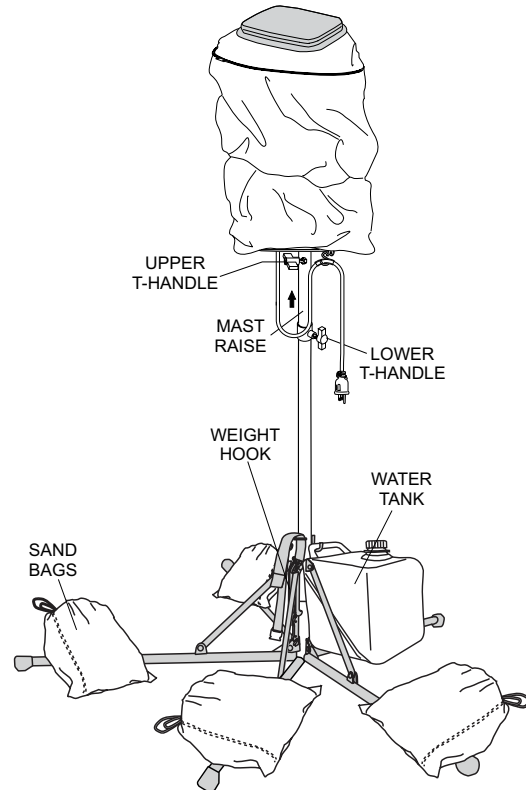

Figure 12. Sand Bags
Before raising the mast, make sure the upper T-handle bolt lock (Figure 12) is securely tightened. This will prevent the balloon/lamp assembly from falling off. In addition make sure that the lamp power cable is connected to the mating end of the 11 ft (3.35 meters) power source cable.
5. To improve stability and to prevent tipping of the light unit, place sand bags or similar type weight over the pentapod legs or weight hook as shown in Figure 12.